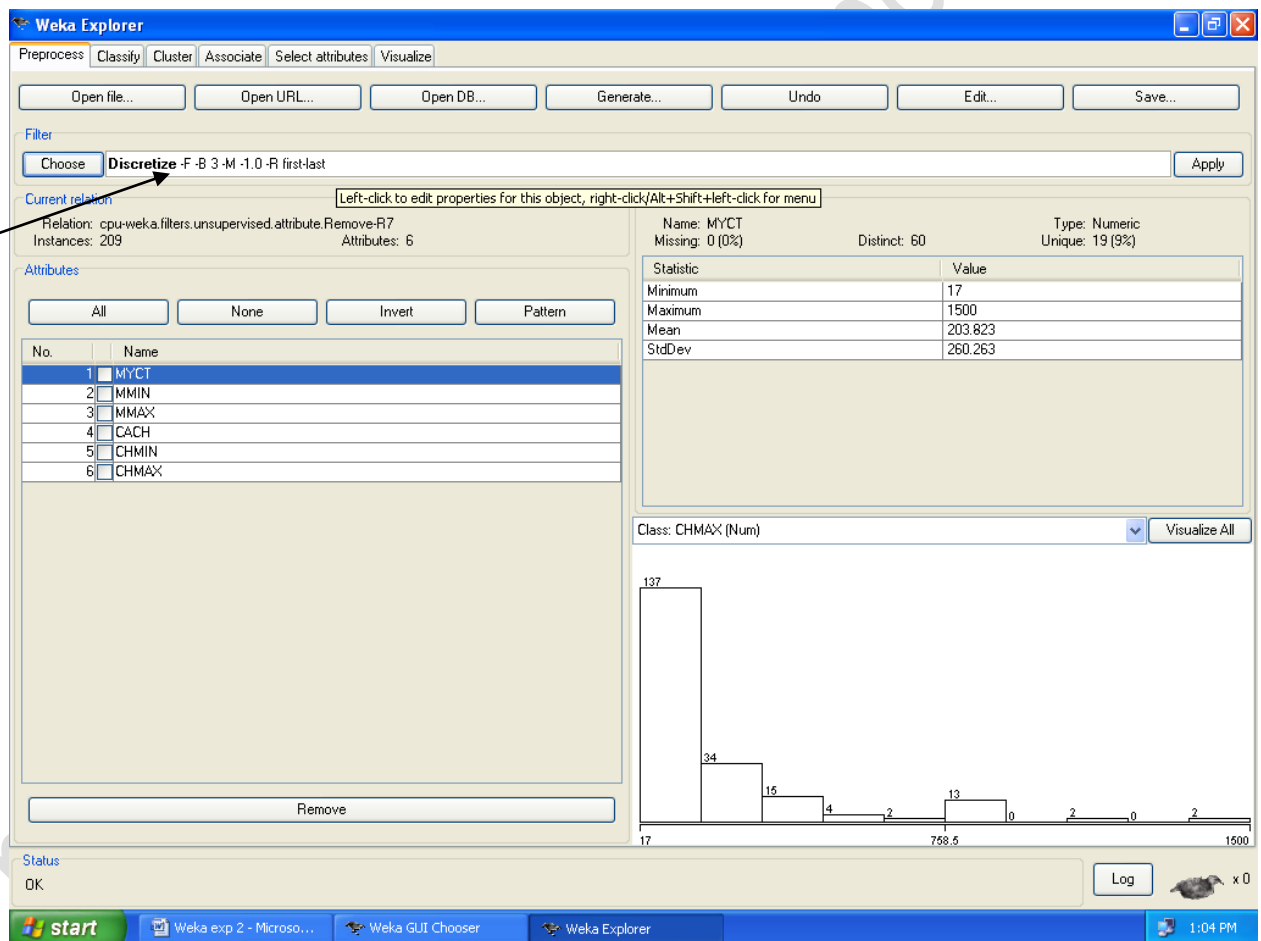

Figure-10
9. Now left click the object to edit the properties or right click and select show properties to edit the properties which is as shown in the figure-10 as follows.